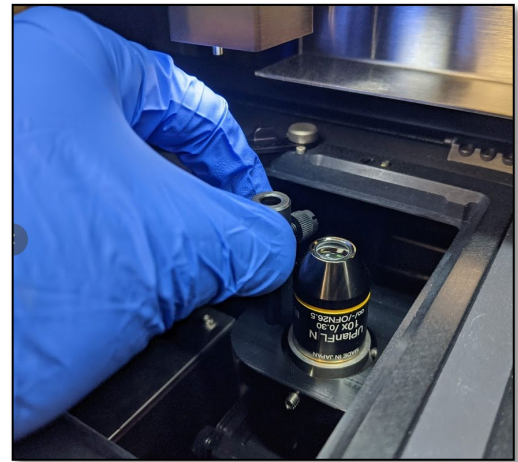

Figure 3
4. Gripping the needle cover with the thumbscrew facing you, begin to screw the needle mount clockwise into the hole to the left of the objective (**Figure 3**). Before the thumbscrew hits the objective, ensure the needle mount is partially threaded into its hole (to avoid falling into the AIR System), then loosen the thumb screw to allow the needle mount to freely spin within the cover.